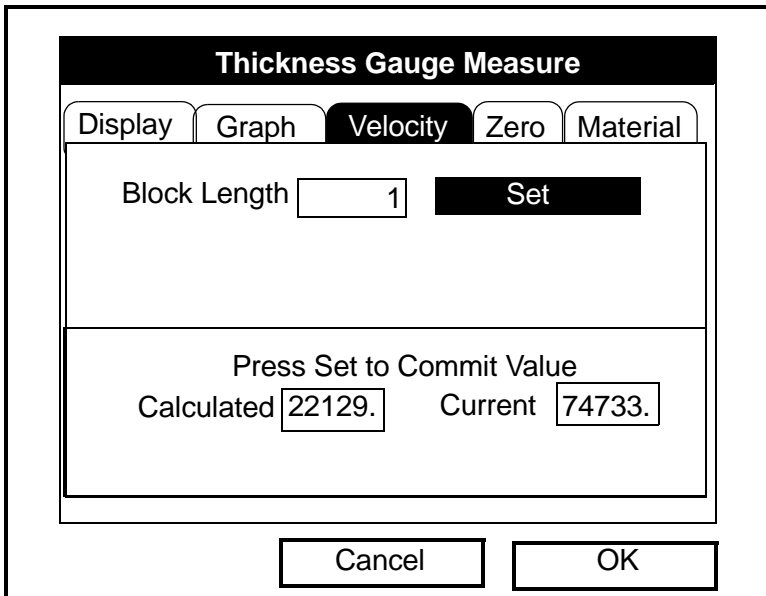

Figure 8-10: The Velocity Window, Displaying the Calculated and Current Values
3. Prepare the sample for calibration by applying couplant B to its surface, and press [ENTER]. The screen now appears similar to Figure 8-10 below.